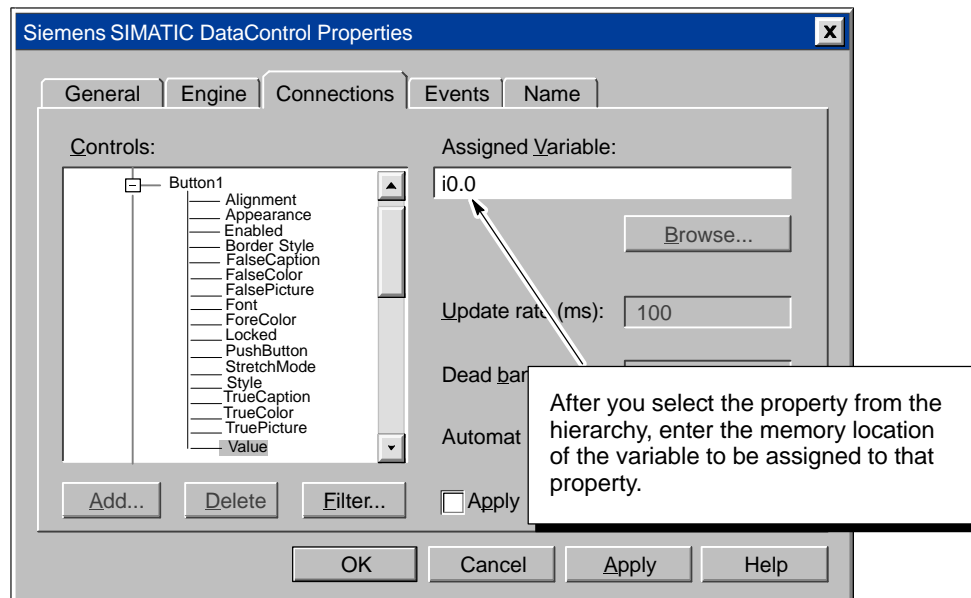

Figure 1-20 Assigning the Value Property to a Variable
3. Click on the “+” beside Button1 (or double-click on Button1) to display the properties for the Button control. See Figure 1-20.
5. As shown in Figure 1-20, enter “i0.0” in the “Assigned Variable” field. (You can use either upper case or lower case for designating memory locations.)